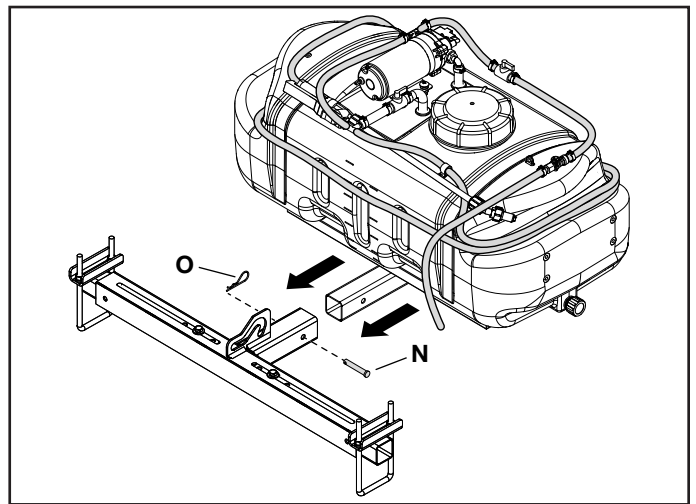

FIGURE 5
STEP 5: (SEE FIGURE 5)
- Attach the tank assembly to the hitch mount assembly using one clevis pin (N) and one hair cotter pin (O).